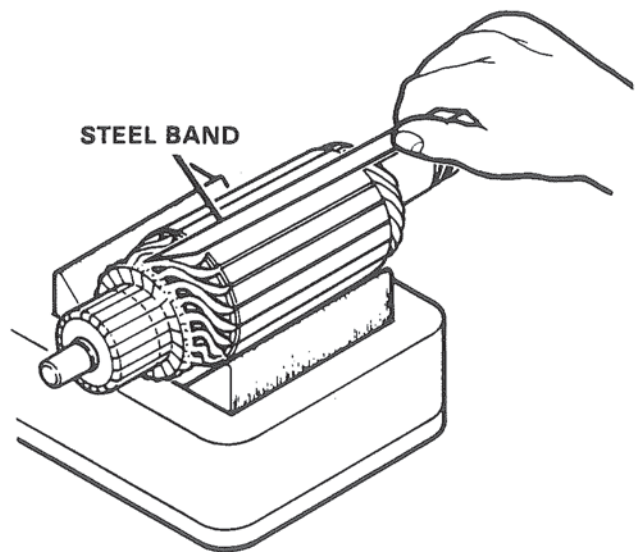

Figure 5. Armature Short Test.
A. Place armature in growler jaws and turn power switch to GROWLER position. Figure 5.